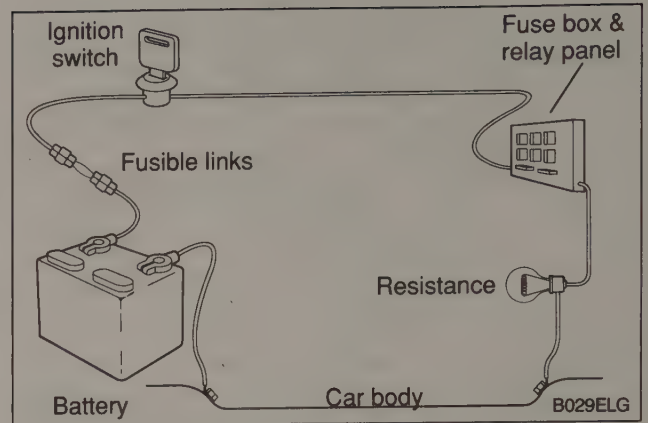

Fig. 3-5. Schematic representation of simple circuit for lightbulb. Switch is shown closed, making circuit complete.
Electric current only flows in a complete circuit. To operate, every electrical device in the car requires a complete circuit including a voltage source and a path to ground. The positive (+) side of the battery is the original voltage source, and ground is any return path to the negative (-) side of the battery, whether through the wiring harness or the car body. Except for portions of the charging system, all electrical current in the car is direct current (DC) and flows from positive (+) to negative (-). Switches are used to turn components on or off by completing or interrupting the circuit. A switch is "open" when the circuit is interrupted, and "closed" when the circuit is completed. Fig. 3-5 shows a complete circuit schematically.